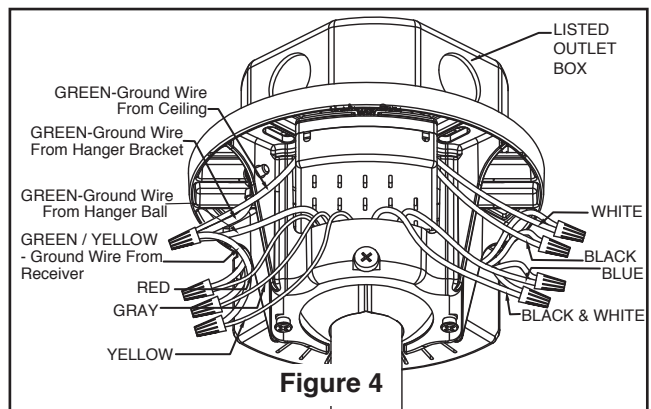

**Figure 3**
**2.** Connect wires using connectors as shown in Figure 3.